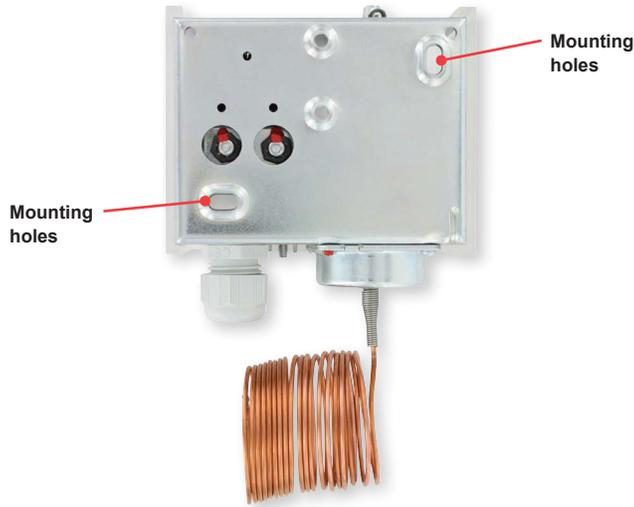

Figure 2: Back view of the DFS2
2. Mount the switch housing to the duct or other flat surface using the oval mounting holes only on the rear plate of the switch housing. Mounting with round holes in the middle of the thermostat may damage the instrument and cause improper installation. See Figure 2.
Mount unit to a flat surface using oval holes only (See Figure 2). Mounting with round holes in the middle of the freeze-stat may damage the instrument and cause improper operation.